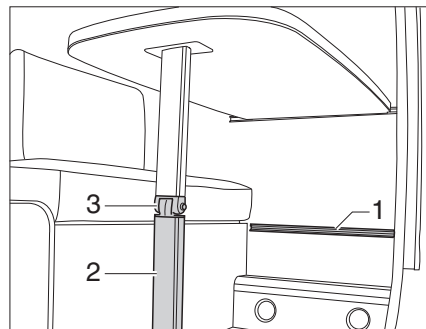

Fig. 33 Suspension table with fold-out leg
- Unlock the table leg (Fig. 33,2) at the hinge and fold it in.
- Attach suspension table to the lower attachment rail (Fig. 33,1) and rest it onto the table leg hinge (Fig. 33,3).